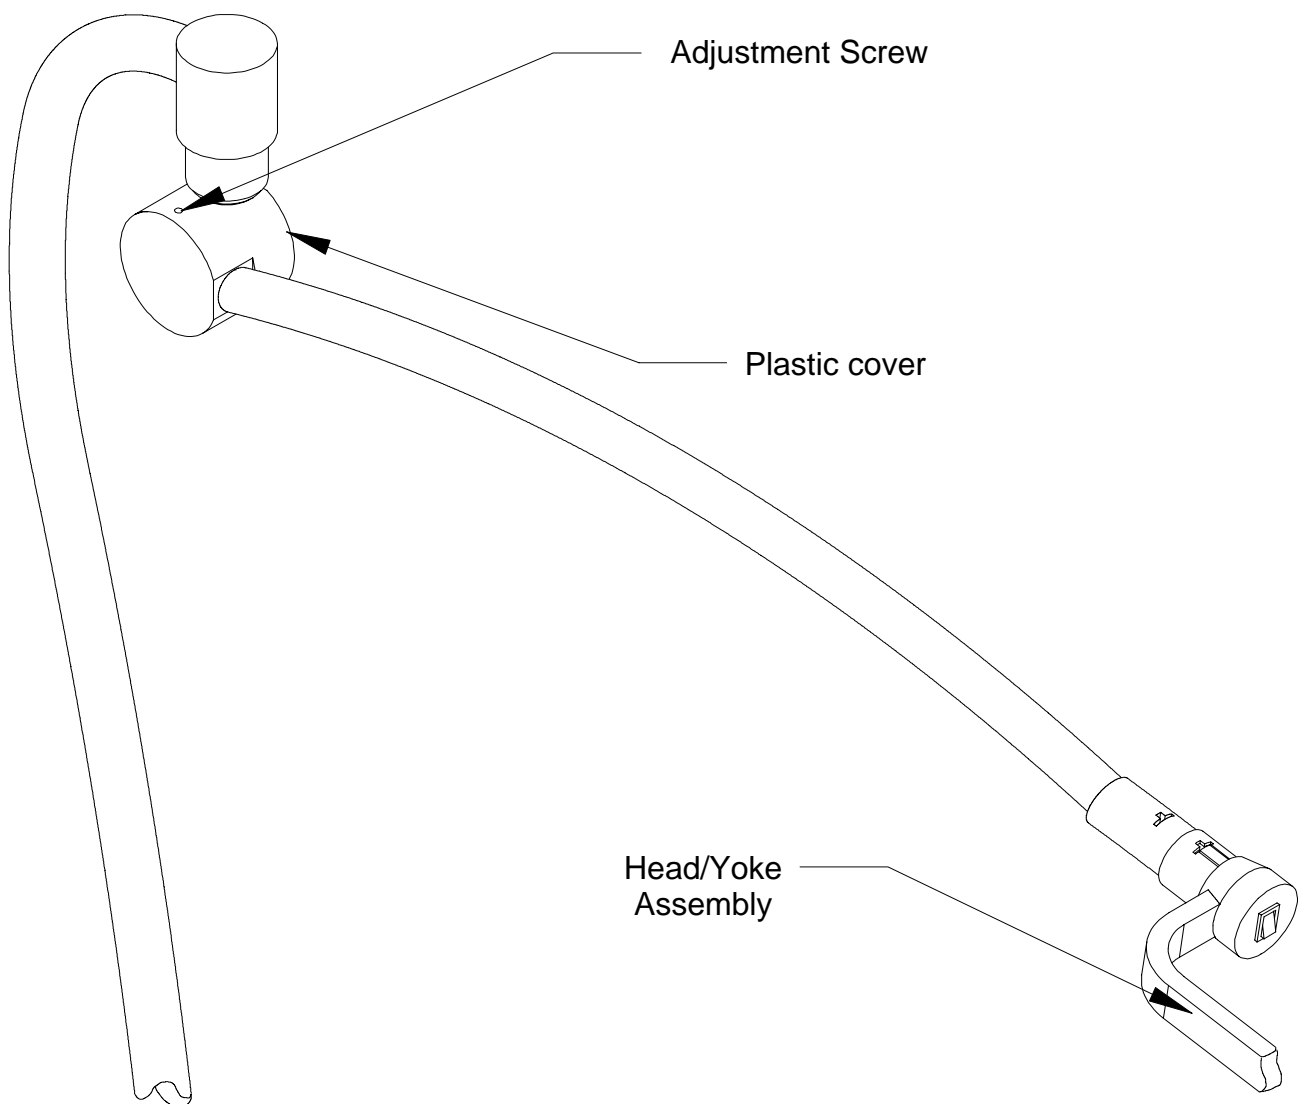

Figure 8: Arm Adjustment
- Lower the arm and light head until the adjustment screw in the arm plastic cover is accessible as shown in figure 8.